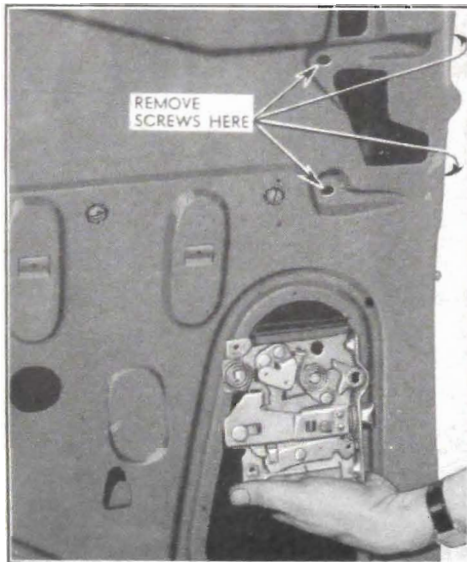

Fig. 1-66. Door Lock Removal
- 4. Remove four screws, Fig. 1-66, which hold the lock in place, disconnect the lock from the remote control link and remove lock through loading hole in door inner panel as shown.